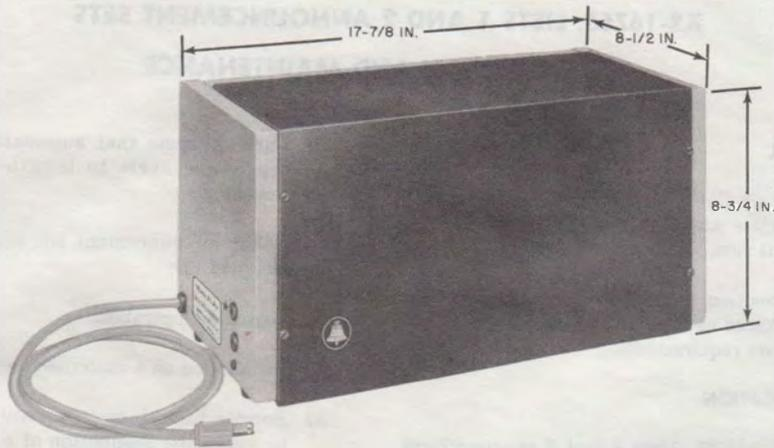
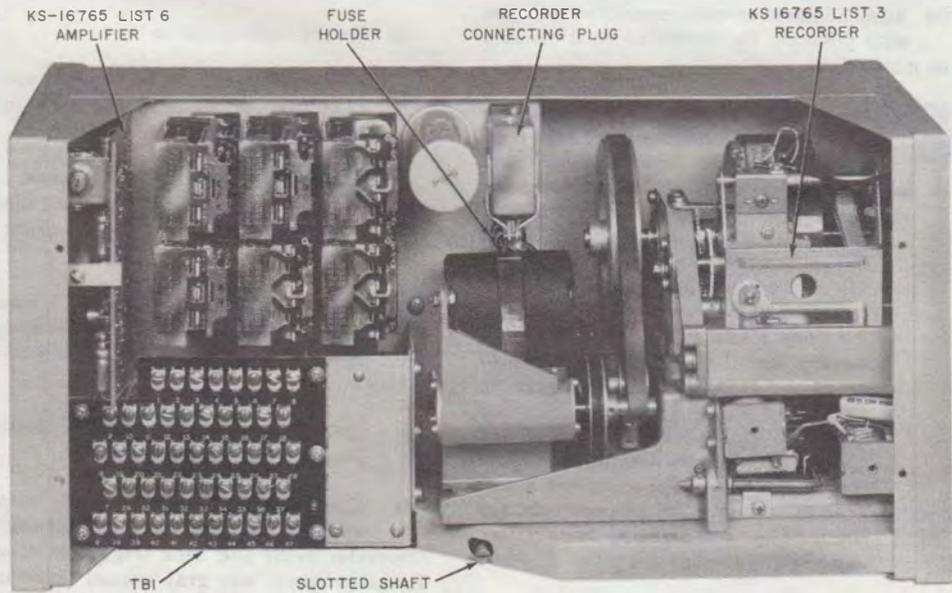

Fig. 1—KS-16765, Lists 1 and 2 Announcement Set Dimensions
Fig. 2—KS-16765, List 1 Announcement Set, Front Cover Removed
2.01 The KS-16765, Lists 1 and 2 announcement sets (Fig. 1) feature:
2.05 Each set weighs approximately 40 pounds and is housed in a metal cabinet that has a removable front and back (Fig. 2, 3, 4, and 5). The cover has a blue gray enamel finish and the chassis has a light olive gray finish. Dimensions are shown in Fig. 1.
2.07 A 1/2-amp fuse is provided in these sets for electrical protection (Fig. 2 and 4).
2.08 The KS-16765, Lists 1 and 2 announcement sets (Fig. 2, 3, 4, and 5) incorporate the following:
- (1) Remove announcement set front cover.
- Loosen four captive screws on front cover (Fig. 1).
- (2) Remove recorder connecting plug from plug-in receptacle.
- (3) Remove List 3 recorder.
- (4) Insert new recorder into cabinet.
- (5) Release bail shipping lock.
3.06 KS-16765, List 6 amplifier (Fig. 2, 4, and 9):